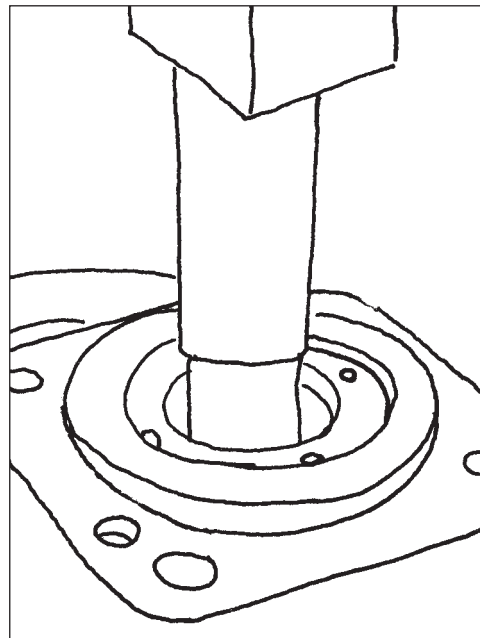

**Figure 72**
12. Using an appropriate-sized socket or bushing driver, remove the seals by pushing them out using light hammer blows. Discard the old seals (**Figure 72**).